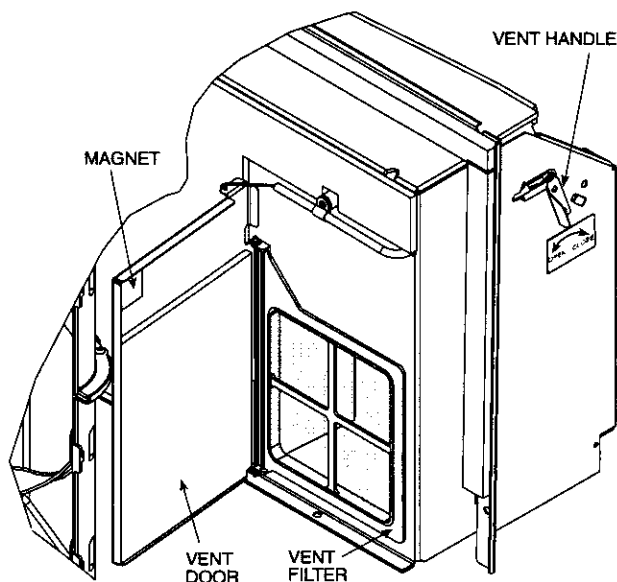

FIGURE 17 — VENT DOOR
■ **ADJUST VENT** — The vent handle is on the left side of the unit. Turn handle to open or close vent. Vent will remain in last desired position until handle is turned again. Magnet will ensure positive closure. See Figure 17.
■ **OUTSIDE AIR** — To bring outside air into occupied space, turn the vent handle to the full open position. See Figure 17.